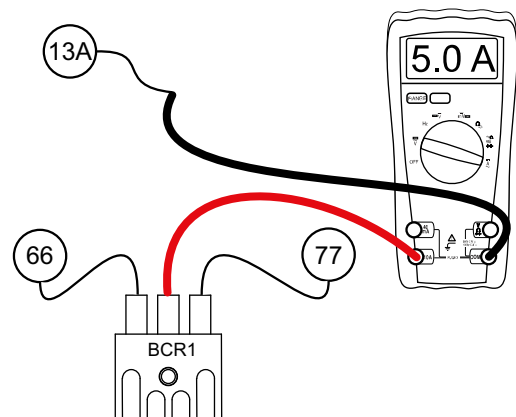

Figure 4-25. Testing BCR1
2. See Figure 4-25. Set DMM to measure DC Amperage.